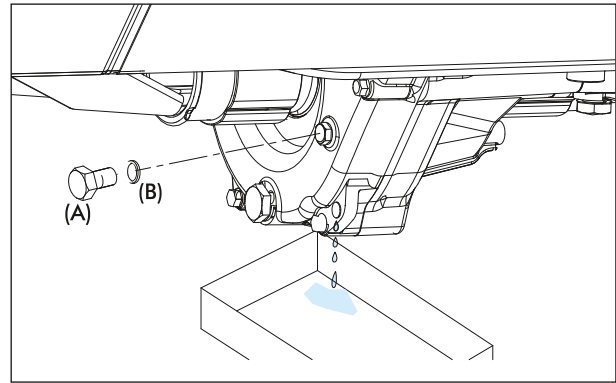

Fig. 2.14
- To check the differential oil level, loosen and remove the oil level hexagonal screw M6X12 (A) along with Oil seal 8X19X5 (B).(Fig. 2.14)